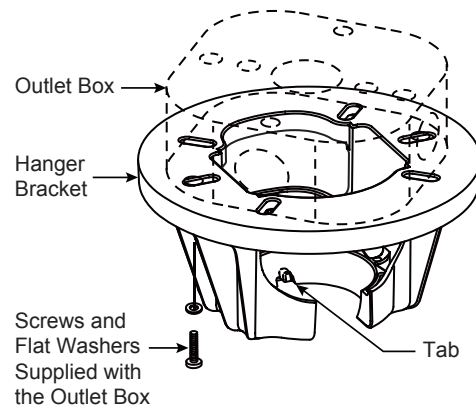

Figure 3
- 1. Securely attach the hanger bracket to the outlet box using the outlet box screws and washers supplied with the outlet box. (Figure 3)
NOTE: Outlet box screws pass through slotted holes of the hanger bracket. (Figure 3)
- 3. Carefully lift the fan and seat the downrod/hanger ball assembly onto the hanger bracket that was just attached to the outlet box. (Figure 4) Be sure the groove in the ball is lined up with tab on the hanger bracket. (Figure 3)
- 2. Slide the receiver into the hanger bracket before wiring as shown in figure 3.